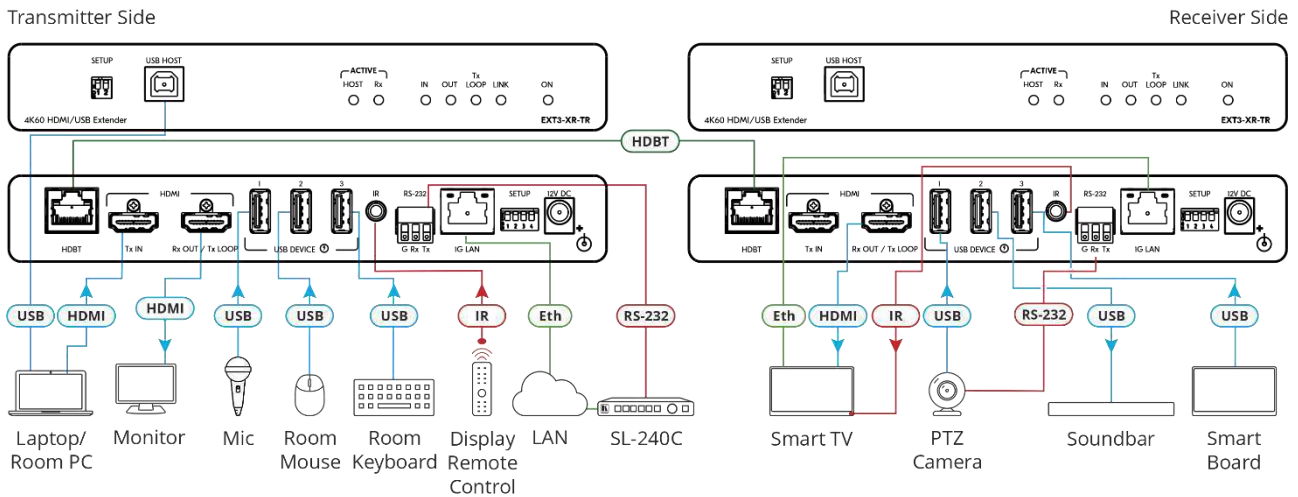

Figure 5: Connecting to EXT3-XR-TR
To connect **EXT3-XR-TR** as illustrated in the example in Figure 5:
10. Connect the power adapter to **EXT3-XR-TR** and to the mains electricity (not shown in Figure 5).